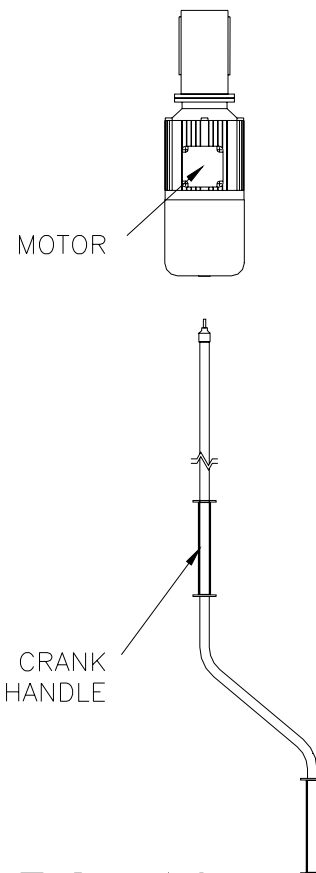

FIG. 10
- Insert **Crank Handle** into Socket at bottom of Motor (Figure 10).